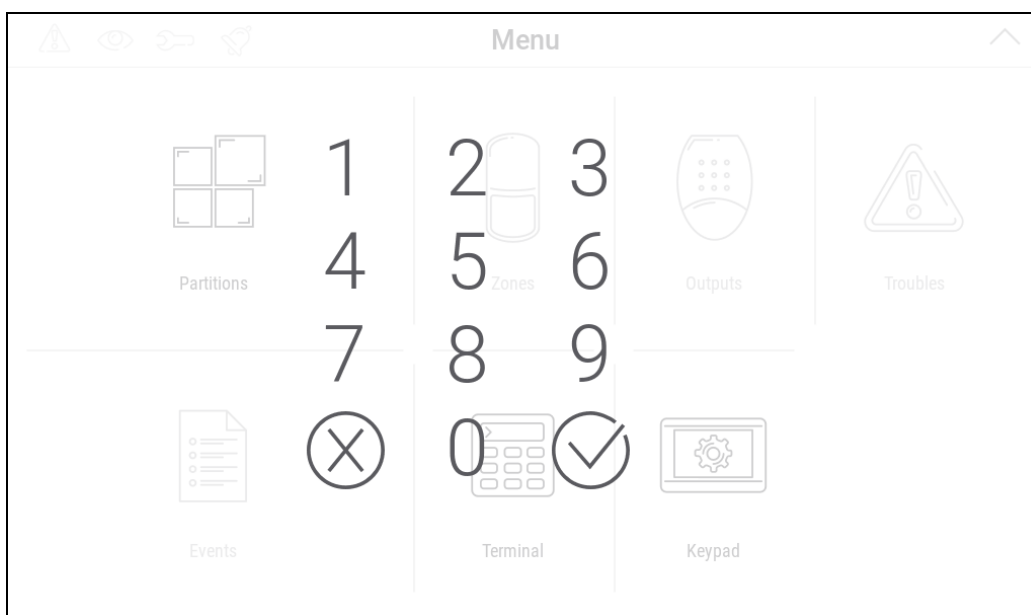

Fig. 8. On-screen keypad.
- Swipe the screen up. The on-screen keypad will be displayed (Fig. 8).